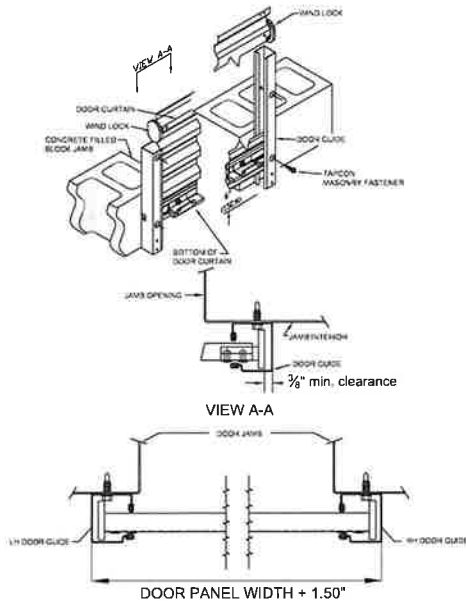

Figure 7.
8.1 Pull the door down to within 6" of the floor. Adjust door guides so there is 3/8" clearance between the windlock on the door curtain assembly (shown in Figure 7) and the inside of the door guides.